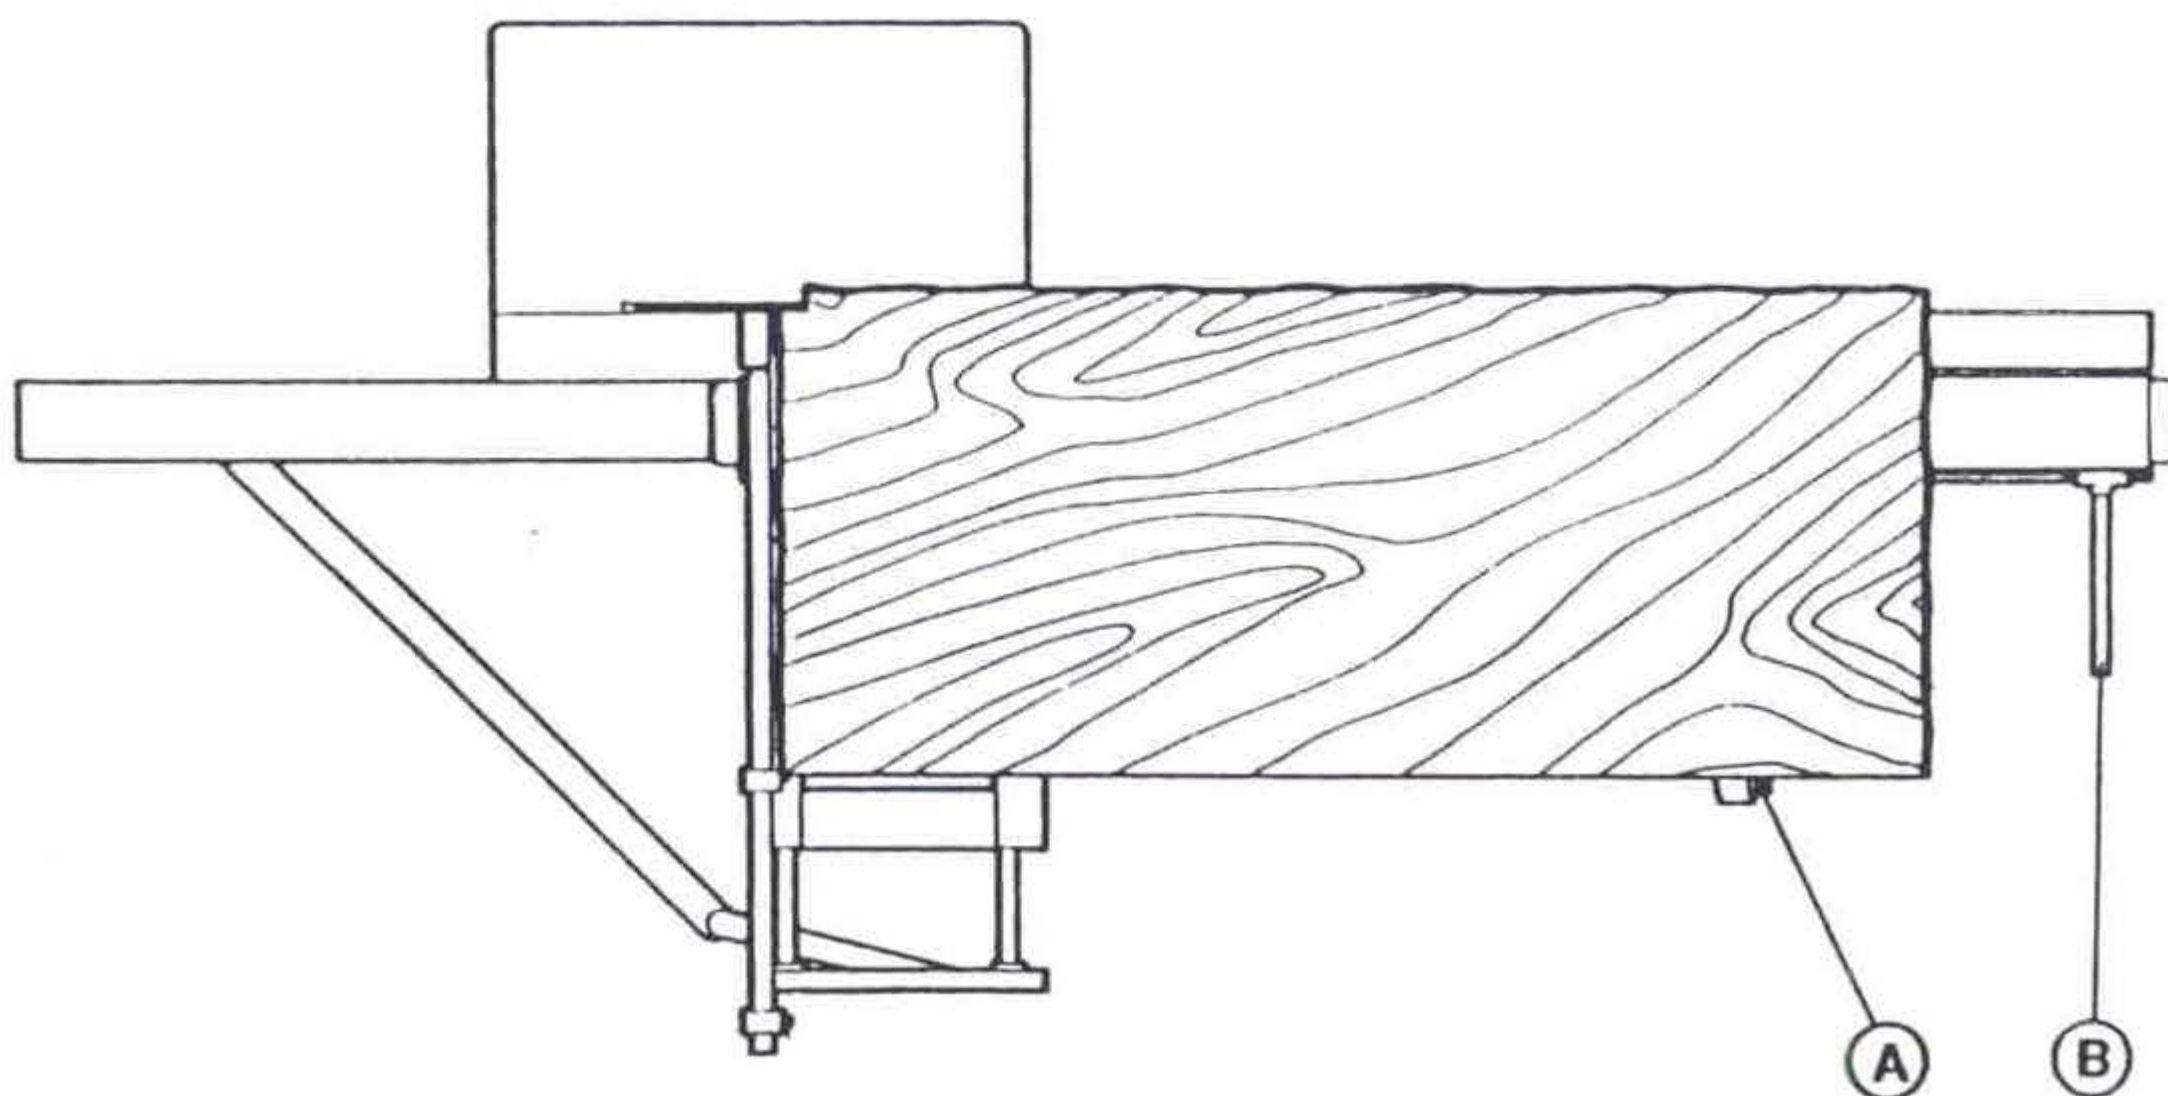

Fig. 20
- The finished sawn side of the panel is now adjusted against the rip fence to make a sized and parallel cut, against the first stop of the aluminium crosscut fence and the sliding stop on the support (A) (fig. 20)